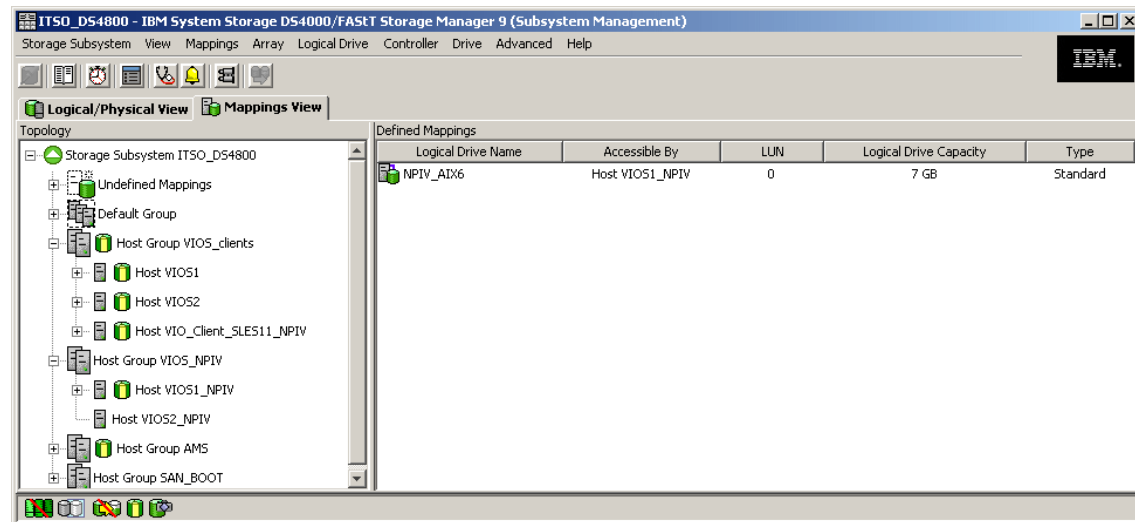

Figure 2-39 LUN mapping within DS4800
- c. After you have finished with the zoning, you need to map the LUN device(s) to the WWPN. In our example the LUNs named NPIV\_AIX61 is mapped to the Host Group named VIOS1\_NPIV, as shown in Figure 2-39.